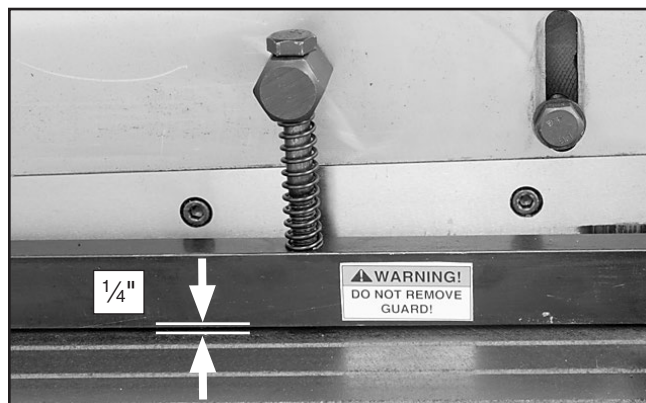

Figure 60. Measuring hold-down feed gap.
2. Use the work lever and raise the blade completely. Measure the feed gap between the table and the hold-down. If this clearance is not $\frac{1}{4}$ " (**Figure 60**), repeat **Step 1** until it is.